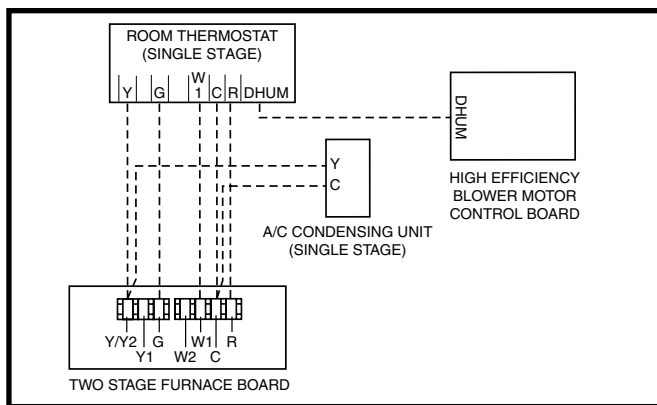
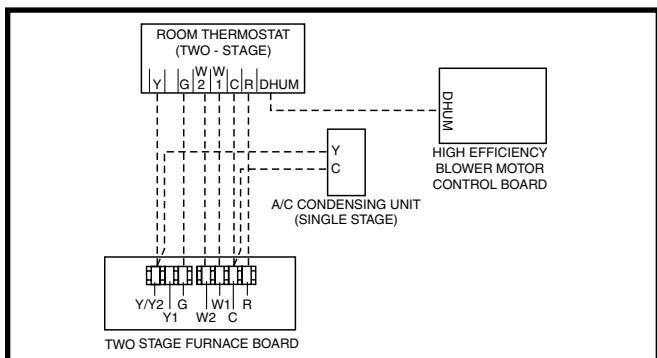

Figure 19. Wiring Configuration 1
Figure 20. Wiring Configuration 2
- The thermostat must be installed according to the instructions supplied by the thermostat manufacturer. Low voltage connections (24 VAC) from the thermostat are wired to the terminal strip on the integrated control in the furnace. For heating applications, Figure 19 & Figure 20 \(page 23\) show how to properly connect single stage and two-stage thermostats. Recommended minimum wire gauge for thermostat wiring is shown in Table 8, \(page 33\).
- Connect the thermostat's **W** output to the furnace control boards **W1** terminal. This allows the furnace to always run in low output mode. See \(Figure 19\)
This option uses the full two stage heating capability of the furnace with a single stage outdoor unit. See Figure 20.
The Autostaging feature makes it possible to use a single stage thermostat and still receive some of the benefits of 2-stage furnace operation. If Autostage is enabled, the furnace will drop to **LOW** fire after initially starting in **HIGH** fire. After a period of 10 minutes, the furnace will then stage up to **HIGH** fire, until the heating load is met. See Figure 19 \(page 23\) and the Low Voltage Connection section.
- ✓ Verify that all needed thermostat wires are securely connected to the correct leads on the terminal strip of the circuit board. See Figure 19 & Figure 20.